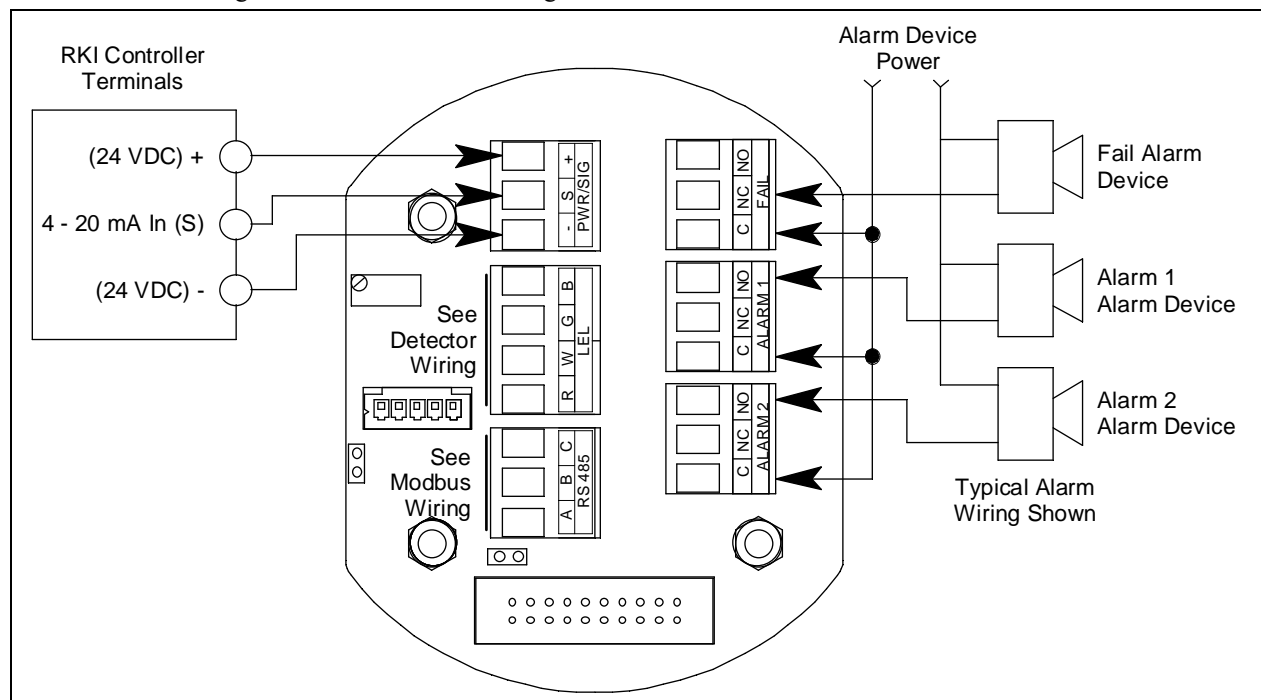

Figure 30: Wiring the M2A to a Controller and Alarm Devices
- If the M2A will be wired into a Modbus network, see "Chapter 8: RS-485 Modbus Output" on page 57. See Figure 30 below for field wiring connections to the M2A.